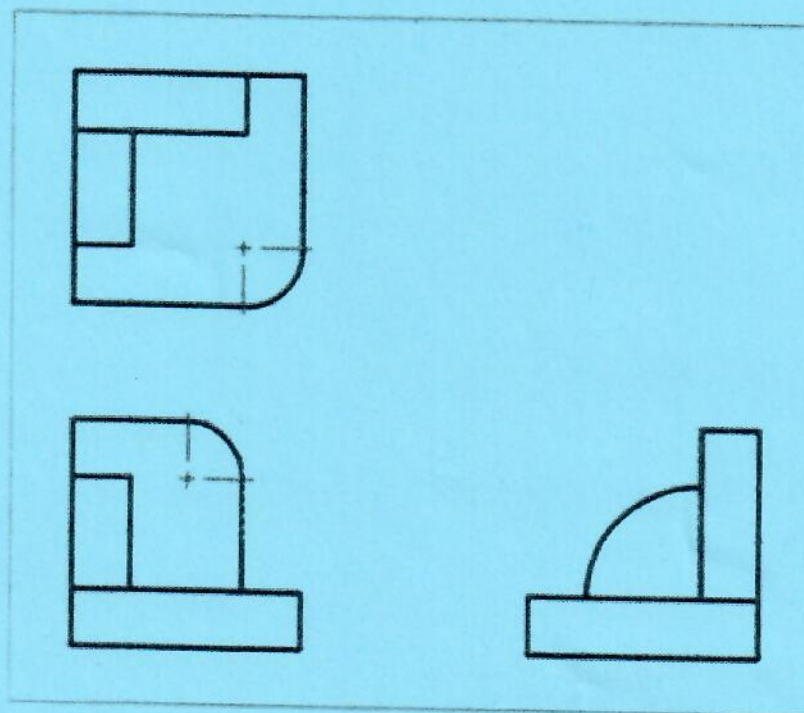

Figure 5      An orthographic view of a blacksmith support block.
- e) Figure 5 shows an orthographic of view of a blacksmith's angle block. Draw the isometric view of the block on the provided isometric paper. Begin the drawing from the indicated start point of the isometric axes. [21 marks]